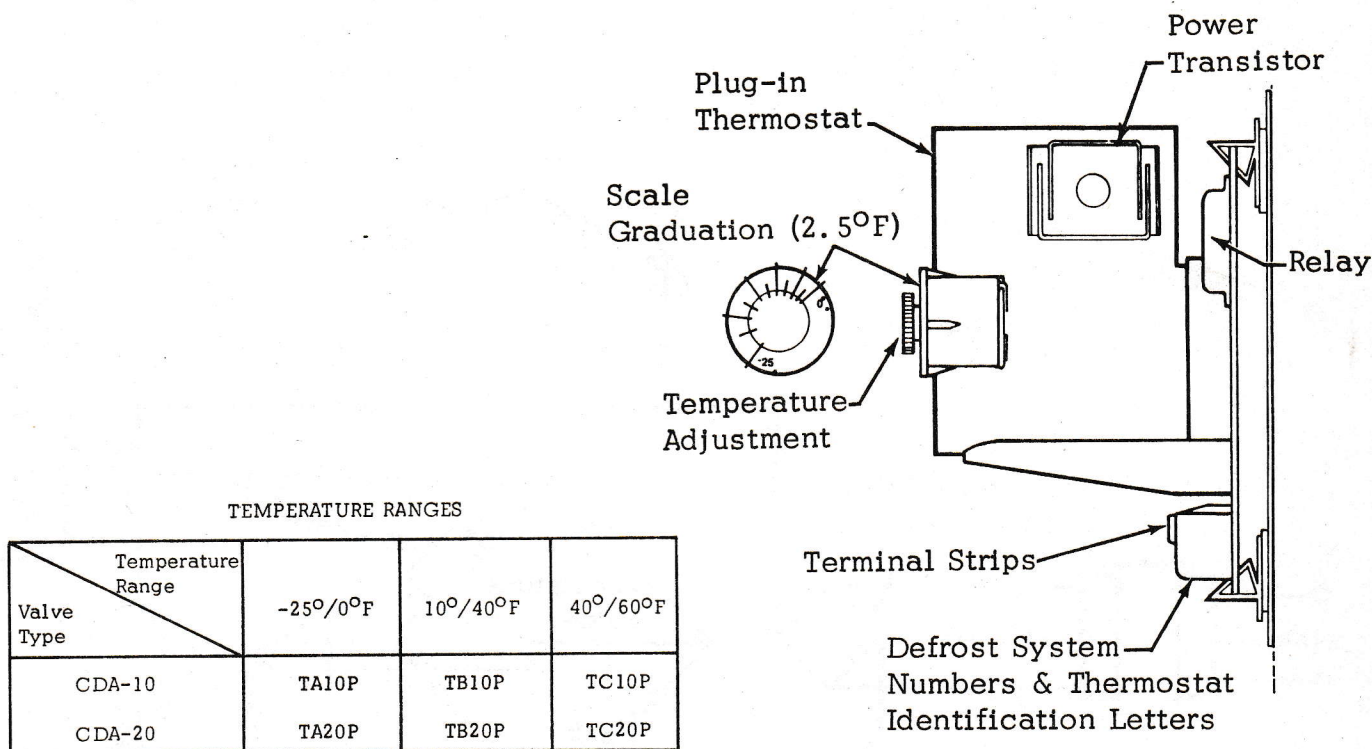

Figure X-3
Plug-in thermostat. The plug-in thermostat is the brain of the CDA system. It has a temperature adjustment dial, operational amplifier, full-wave rectifier, and wheatstone bridge circuit for modulating the electrical output to the CDA valve solenoid. Plug-in thermostats can be easily checked for proper operation (see Service Tips). Thermostat ranges are shown on the temperature adjustment dial (see Figure X-3).
6. With the control fixtures adjusted to the correct temperature tolerance, the thermostatic expansion valve must be adjusted. To properly adjust the expansion valve, the CDA valve must not be allowed to control at this time. Mark the adjusted position of the CDA thermostat. See Figure X-3. Turn the thermostat adjustment to the coldest temperature (counter-clockwise). This will make the CDA valve open up and stay open until TEV adjustments are completed. Adjust all expansion valves that are controlled by the CDA valve at this time with the following procedure: